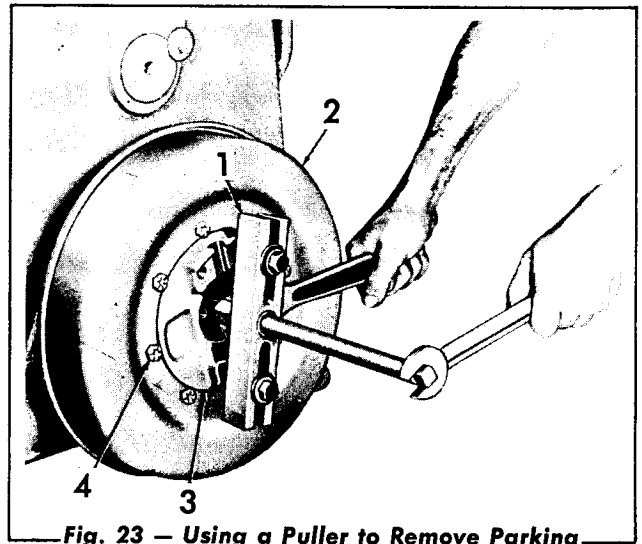

Fig. 23 — Using a Puller to Remove Parking Brake Drum
6. Using a puller (Fig. 23), remove as a unit, the parking brake drum and the front output flange. If necessary only for parts